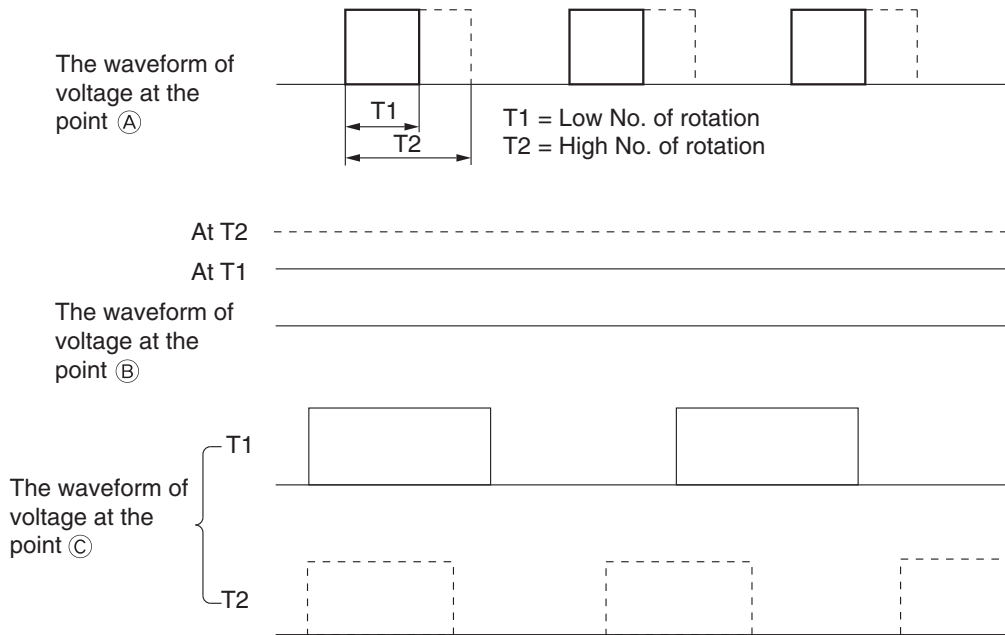

Fig. 3-2
- The 610Hz PWM pulse shown in Fig. 3-2 from the microcomputer pin ④⑤ is output to point ①. The width of this pulse changes with instruction number of rotations.